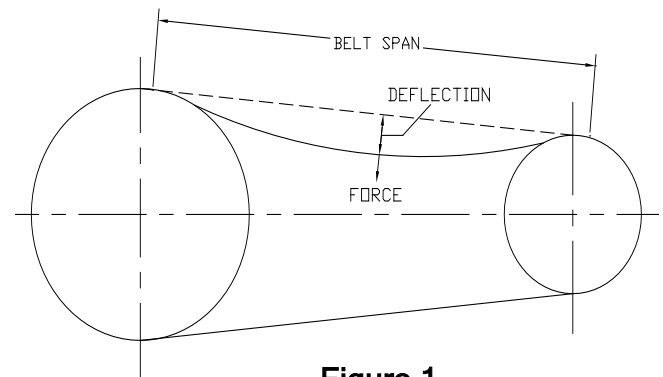

Figure 1
2. Determine the amount of deflection for the belt. With the motor stopped, measure the belt span length (see Fig. 1). The deflection of the belt should be determined as 1/64th of an inch for every inch of span length. For example, the deflection for a 32-inch span would be 1/64 inch X 32, which equals 1/2" inch. Set the tension tool for the calculated deflection.